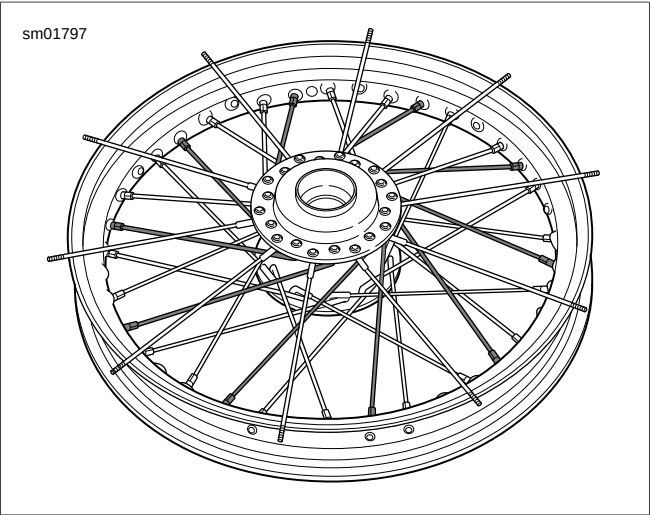

Figure 2-56. Completed Spokes-Top Flange Inner
- See Figure 2-56. Once you have completed the top flange of inner spokes (long-head) double check for one empty hole after every third spoke.